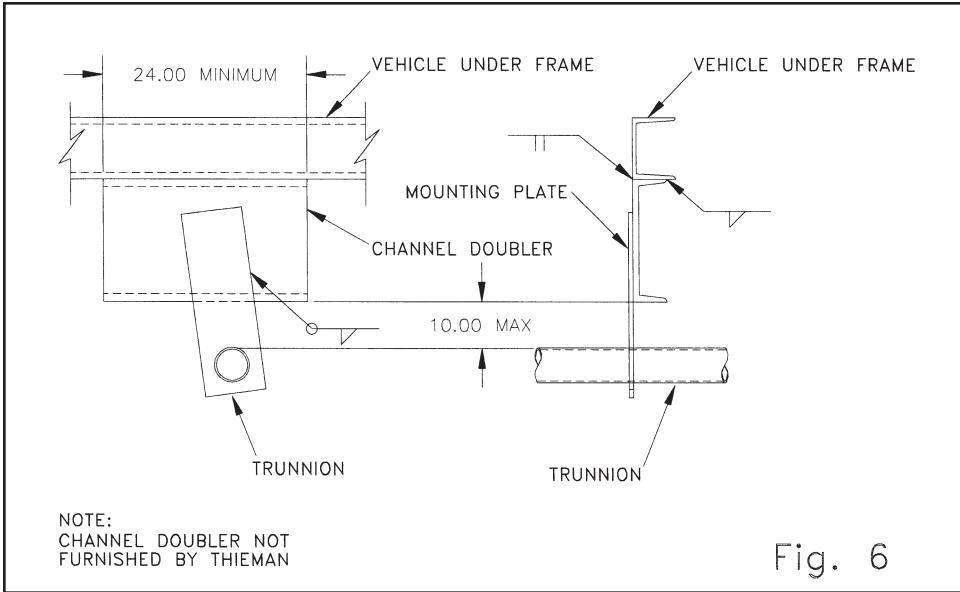

Fig. 6
- Step 9** On installations where narrow underframe members are used, the liftgate mounting plates will reach these frame members for mounting purposes; however, the space between the frame members and trunnion now becomes quite large. This lengthy unsupported area may contribute to undesirable springiness under heavy loading. When faced with this problem extend the underframe support on the mounting plate closer to the trunnion by adding a channel section under the existing frame member as shown in figure 6.